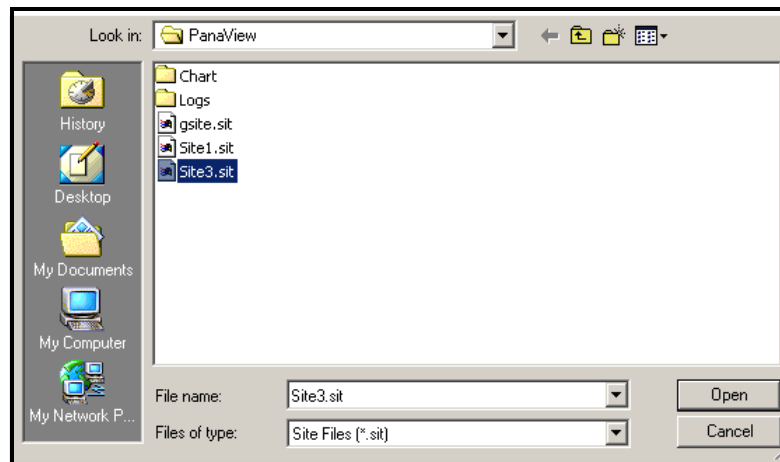

Figure 32: Site File Selection
2. Then click on the *Save Site to Meter* button. A screen opens similar to Figure 32 below.
3. The *Site File Selection* window (Figure 32 on page 106) opens. Highlight a site with the desired settings, and click [Open]. PanaView saves the site in the meter with the new name and the desired settings.
3. The *Site File Selection* window (shown in Figure 32 on page 106) opens. Enter the desired site name (now with a .prt suffix) and click [Save]. PanaView displays a text version of the site, as shown in Figure 34 below.